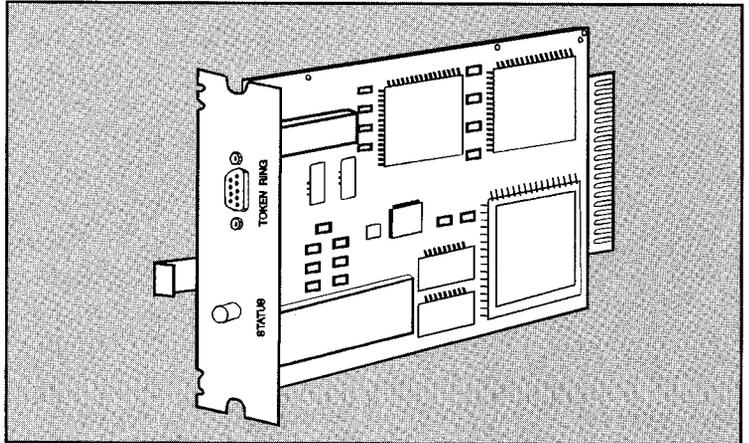

Figure 3-16. Identifying the Token Ring Adapter Card
1. Locate the adapter card. The part number for the Token Ring adapter card for Novell networks is C2071E. See Figure 3-16.